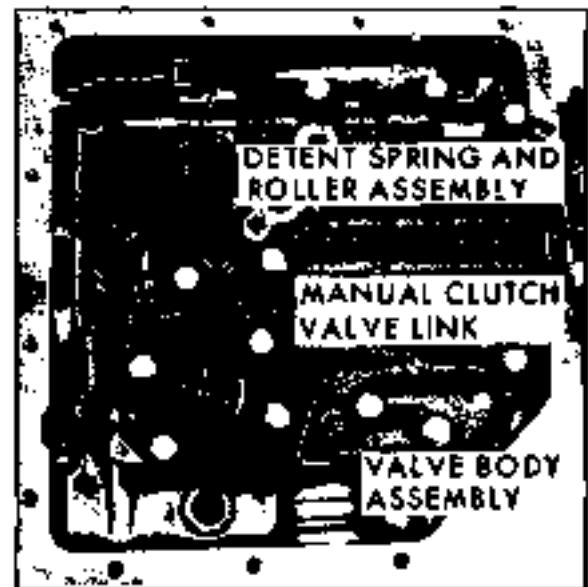

Fig. 7G-124 Installing Detent Spring and Roller to Valve Body
to its spacer plate gasket, install seventeen (17) valve body-to-case attaching bolts and torque these bolts and seven (7) spacer support plate bolts to 13 lb. ft. (Fig. 7G-123).